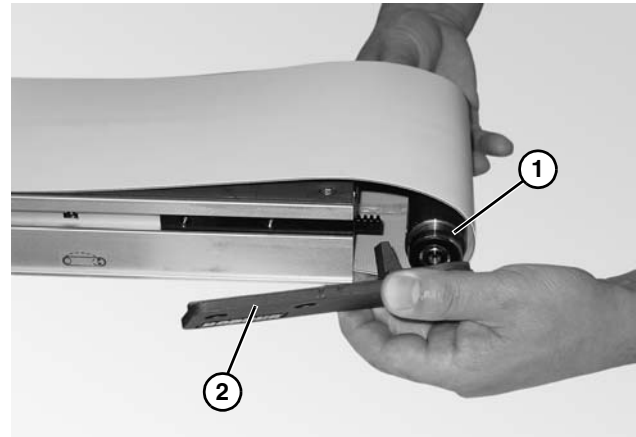

Figure 63
1. With opposite head plate installed, position the idler spindle (**Figure 63, item 1**) through the loop of the belt, into the opposite head plate.
2. Place the head plate (**Figure 63, item 2**) and attach the head plate to the conveyor frame with the two (2) screws removed and hand tighten.